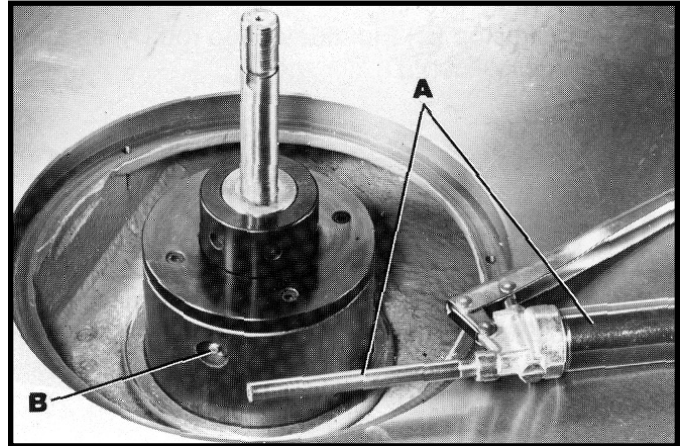

Fig. 54
The spindle bearings should be lubricated every 200 hours of use using the grease gun (A) Fig. 54, supplied. Two grease fittings, one of which is shown at (B), are supplied on the spindle housing for this purpose. The other grease fitting is directly opposite fitting (B). Before lubricating, clean grease fittings (B) thoroughly and lubricate the spindle bearings with two pumps of one of the following greases, or their equivalent: Dow Corning MolyKote R BR2; Esso - Becon 2; Mobile - Mobilplex 47; Texaco - Startex 2.